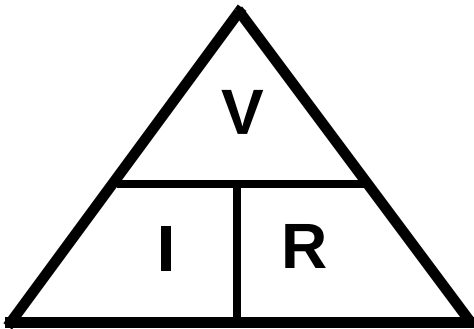

Figure 7.25
- Those who were traumatized by algebra can represent Ohm's law as a triangle. When using the triangle, cover the value to be found, and the two values left exposed signify how to obtain that value. See Figure 7.25.